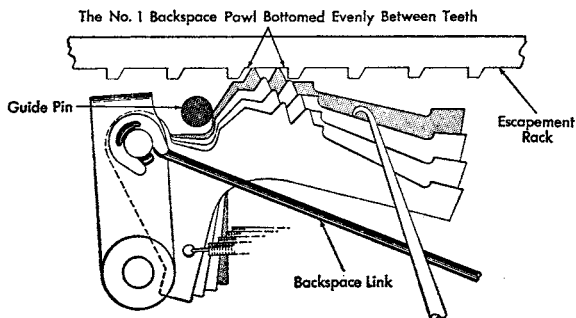

Figure 34. Checking Guide Pin Verticalness
b. The guide pin must guide the remaining backspace pawls into the escapement rack in the same manner as the 4 backspace pawl. To observe this, place the carriage on an escapement pawl so that when the backspace is operated the 1 backspace pawl will bottom in the rack between teeth. Raise the tails of the 4, 3, 2 backspace pawls to observe an equal clearance as the 1 backspace pawl bottoms in the rack (Figure 34).